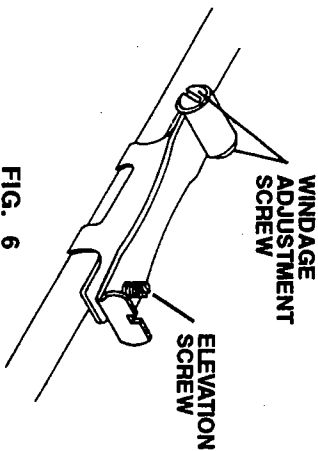

FIG. 6
- The rear sight may be adjusted to shoot higher or lower (elevation). Turn the elevation screw clockwise to make the pellet hit higher on the target. Turn the elevation screw counterclockwise to make the pellet hit lower on the target (Fig. 6).
- The rear sight may also be adjusted to shoot right or left (windage). To make the pellet hit further to the left on the target, loosen the windage screw on the right side of the sight. To make the pellet hit further to the right on the target, loosen the windage screw on the left side of the sight and tighten the windage screw on the right side of the sight. (Fig. 6).